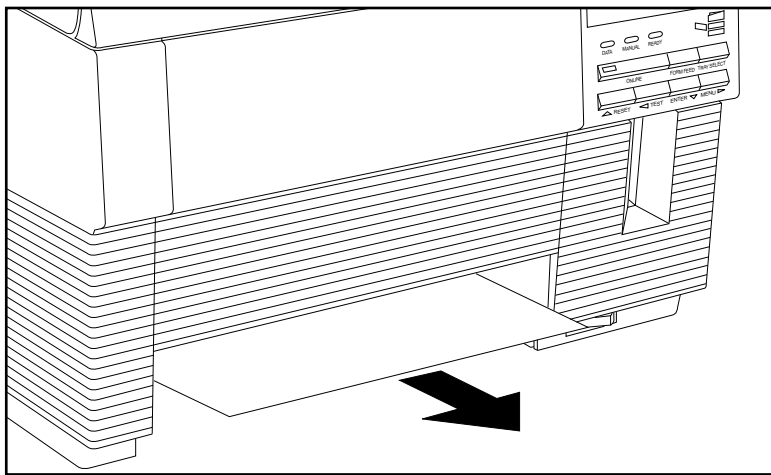

Fig. 10.7 Remove the Jam via the Cassette Slot
- a. Remove the jam by gently pulling it out from the standard cassette slot if you can see the media in the slot and it will easily pull out (fig. 10.7).